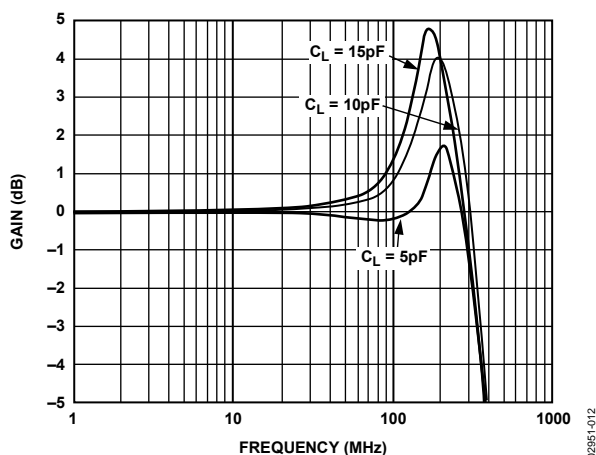
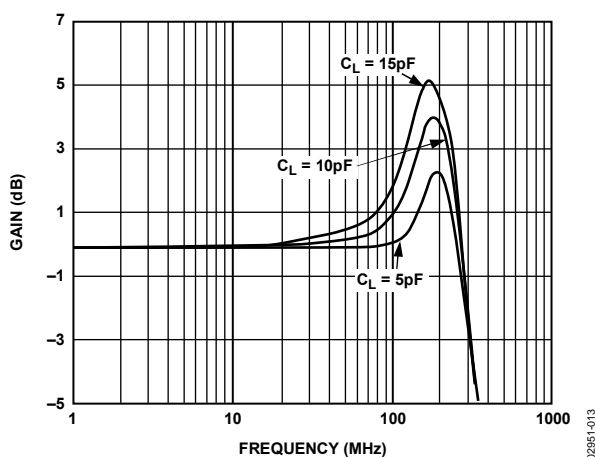

Figure 12. Small Signal Frequency Response for Various  $C_L$ ,  $V_{OUT} = 500\text{ mV p-p}$ ,  $V_S = \pm 5\text{ V}$ ,  $G = +1$
Figure 13. Small Signal Frequency Response for Various  $C_L$ ,  $V_{OUT} = 500\text{ mV p-p}$ ,  $V_S = 5\text{ V}$ ,  $G = +1$
- Put a small value resistor in series with the output to isolate the load capacitor from the output stage of the amplifier, see Figure 12, Figure 13, Figure 27, and Figure 28.